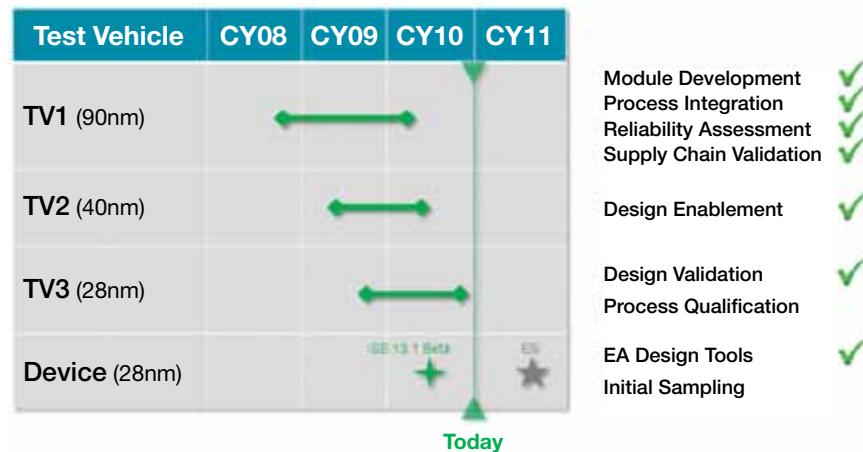

Figure 7. Top die test vehicle (technology node) assessment with silicon interposer and package
Xilinx is well on the way to volume production of the first FPGAs with stacked silicon interconnect technology, having completed over five years of research and development with industry-leading suppliers and extensive testing on series of multiple test vehicles (Figure 7). These test vehicles address process module development and integration, reliability assessment, supply-chain validation, design enablement, interposer known-good-die (KGD) methodology, and microbump electromigration (EM) rules.